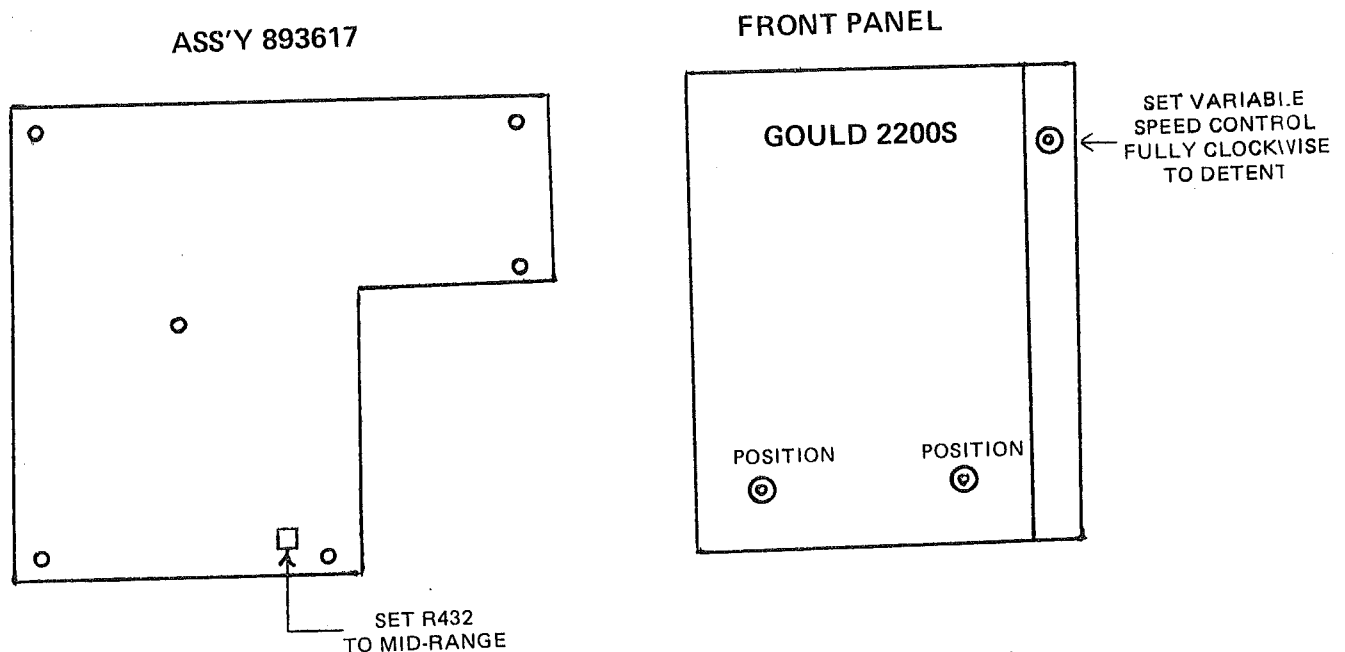

FIGURE 5-14 PROCESSOR BOARD CALIBRATION
1. Set R432 (Processor Board) to mid-range and the variable speed control full clockwise to detent. (Refer to Figure 5-14).